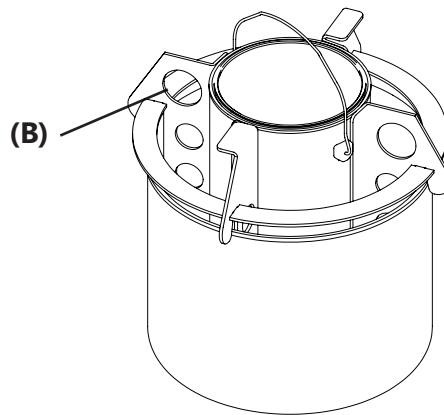

Figure 2
- **1 Gallon Round Cans:** Place the can inside the gallon adapter (optional), A1510 **(B)**. Set the gallon can as shown with the lid up. (See Figure 2)